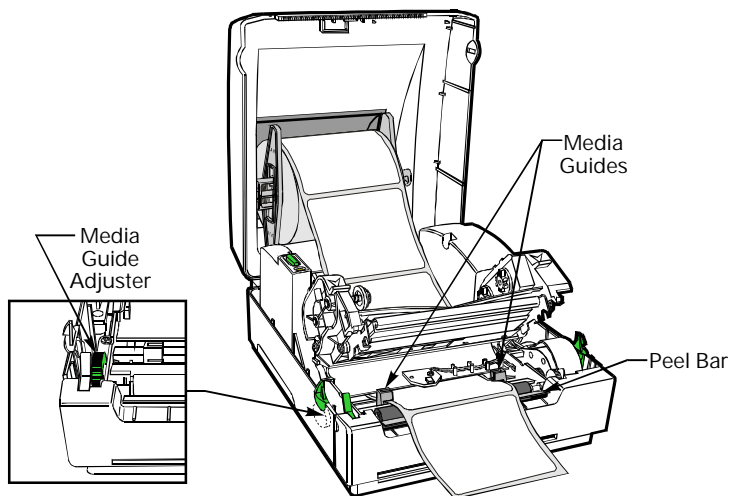

Figure 7
9. Refer to Figure 7. Thread the media through the media guides.
NOTE: If the media guides must be changed to accommodate the width of the media, turn the green media guide adjuster (refer to Figure 7). The media guides should just touch, but not restrict, the edges of the roll.
10. Continue to thread the media past the peel bar (refer to Figure 7).